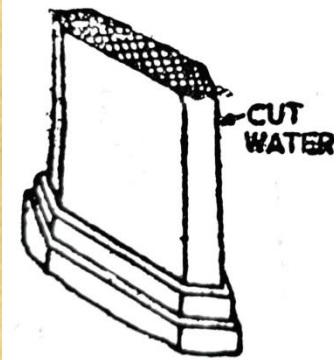

Fig. 6.11. Solid pier
- In masonry bridges generally solid piers are provided as shown in Fig. 6.11.